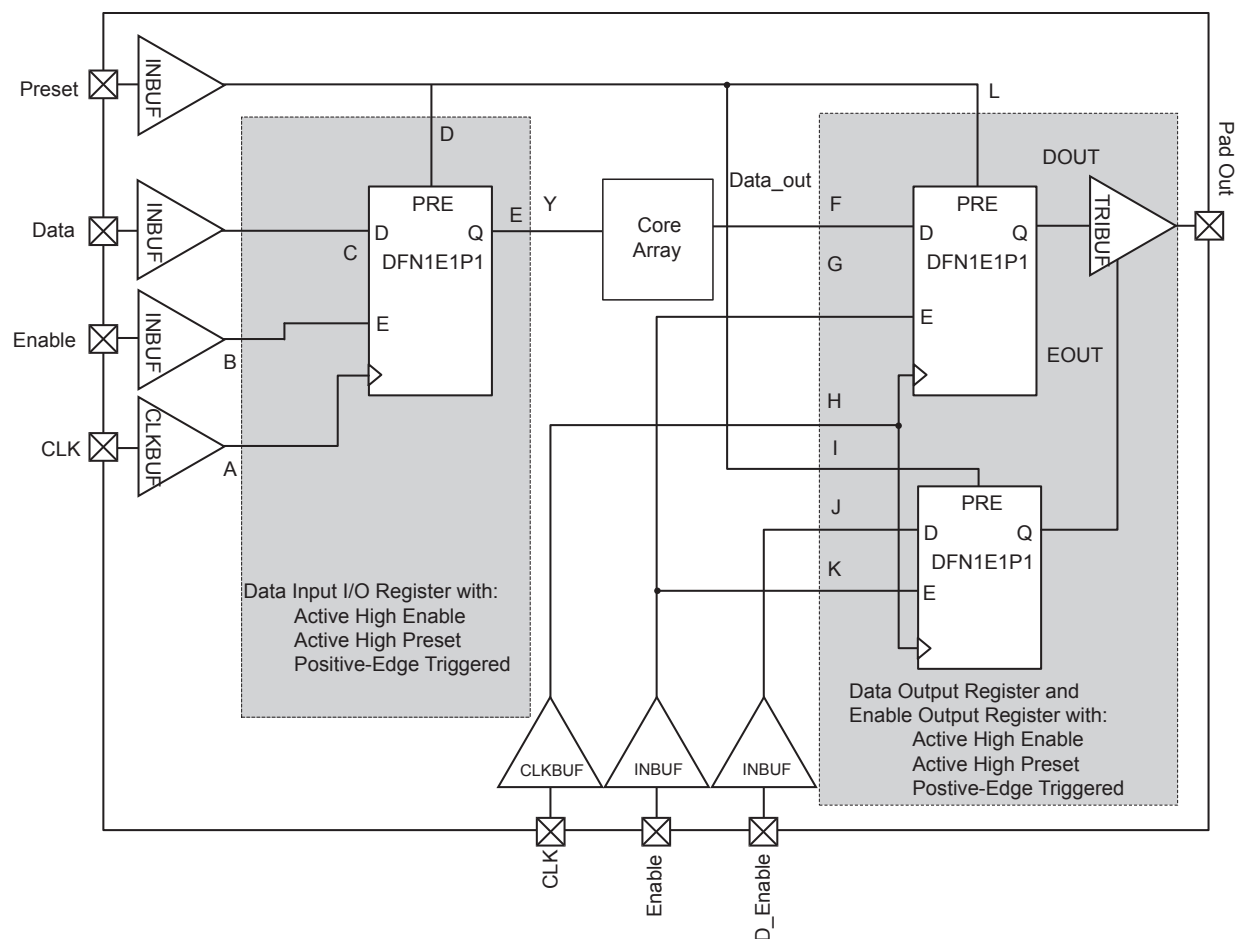

**Figure 2-10 • Timing Model of Registered I/O Buffers with Synchronous Enable and Asynchronous Preset**
**Note:** \*See Figure 2-10 on page 2-38 for more information.